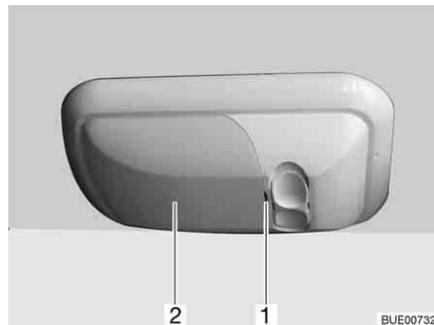

Fig. 225 Cooker lamp
- Use a suitable tool (e.g. a screwdriver) to carefully lever out the cover (Fig. 225,2) at the notch (Fig. 225,1) and remove it.